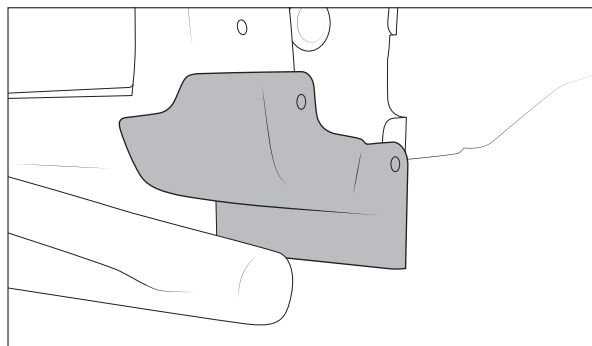

Figure 8
- b. Remove factory fender spat by pulling straight from the truck and releasing the two push clips (fig. 8). **NOTE:** On ZR2 models you will first need to pull the bottom rear of the fender flare away from the fender by carefully pulling outwards to release the flare push clips.